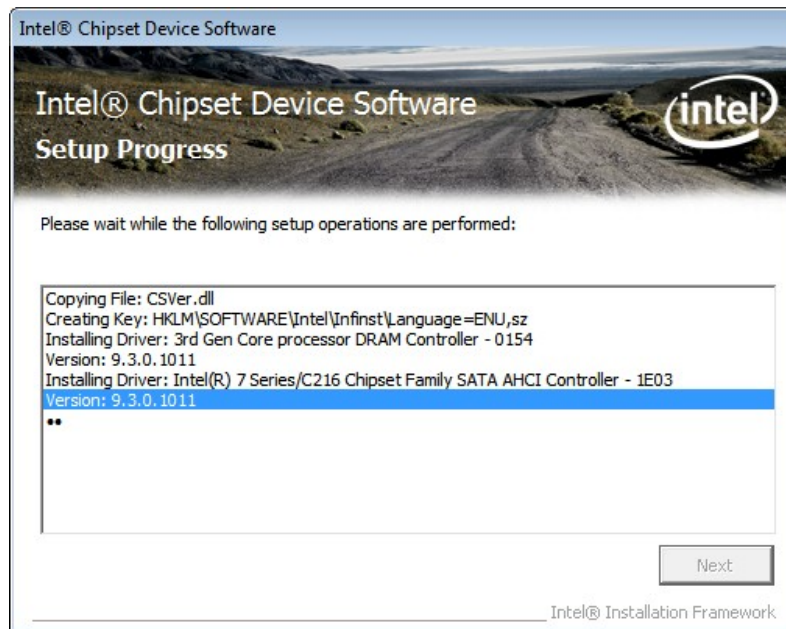

Figure 6-6: Chipset Driver Setup Operations
Step 10: Setup Operations are performed as shown in Figure 6-6.